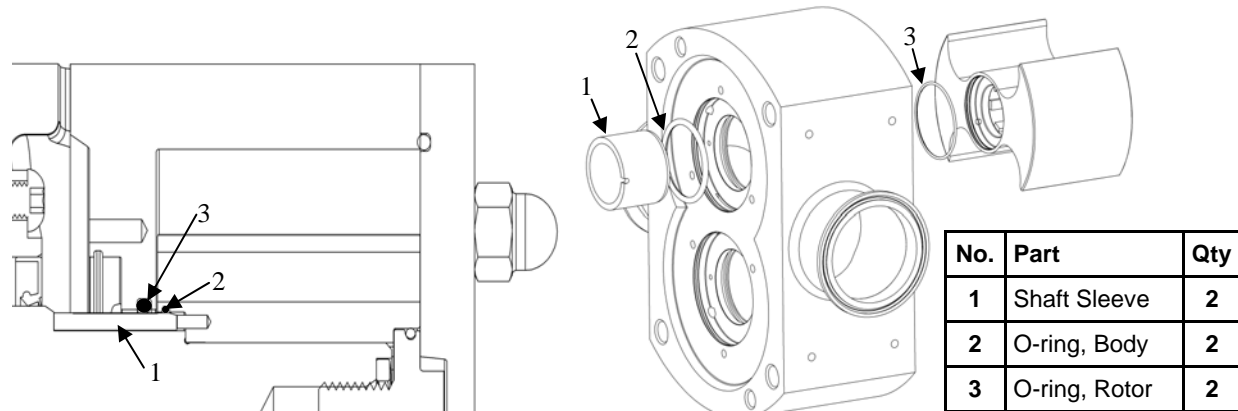

Figure 29: Single O-ring Seal
*Disassembly:* The single o-ring seal option is shown in Figure 29. Remove the body and rotor o-rings using the tool provided by Ampco (If damaged, replace o-rings). Slide the shaft sleeves off the shafts and inspect for damage. Do not re-use sleeves that are damaged (sleeve surface grooved or scratched).